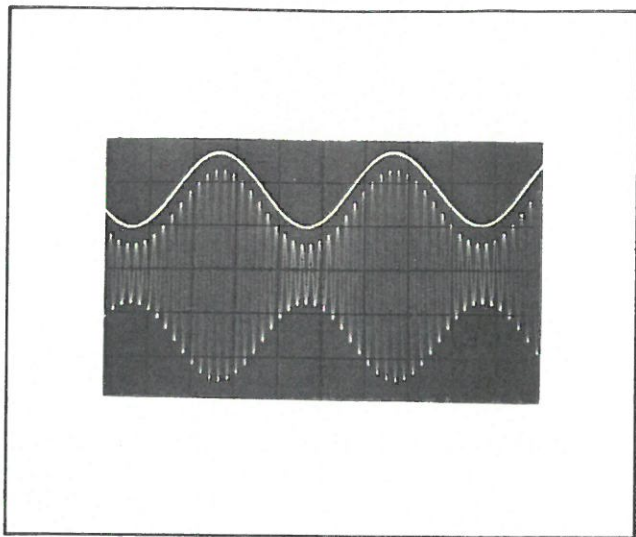

Figure 7. Amplitude Modulator Output
22. Figure 7 is the presentation on a dual-trace oscilloscope of the output of a typical Model 10514A, B Mixer used as an amplitude modulator. Upper trace is modulating waveform. Lower trace is output of Mixer. In